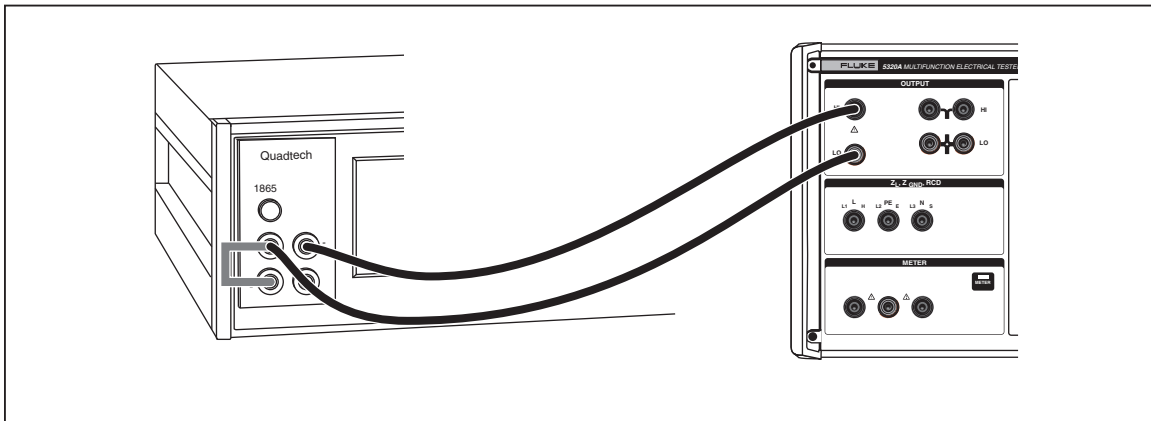

Figure 6-3. High Resistance Source (>10 MΩ) Calibration Connections
5. Connect the Calibrator directly to the megohmmeter as shown in Figure 6-3.